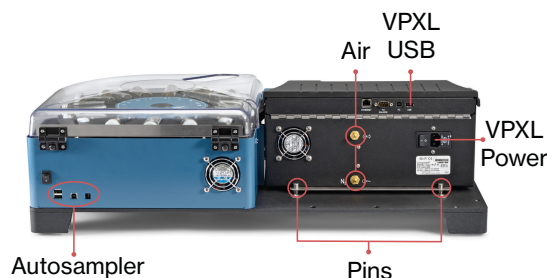

Figure 3
- Place the VPXL onto the Autosampler by aligning the two pins on the Autosampler with the holes on the flange at the rear of the VPXL (fig. 3).
- Using **1/8" ID clear tubing (P/N 345-0050)**, connect the gas source to the **Flow Inlet Port** on the back of the instrument (fig 3).